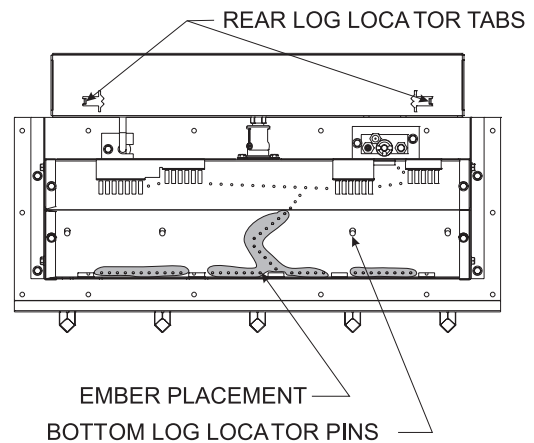
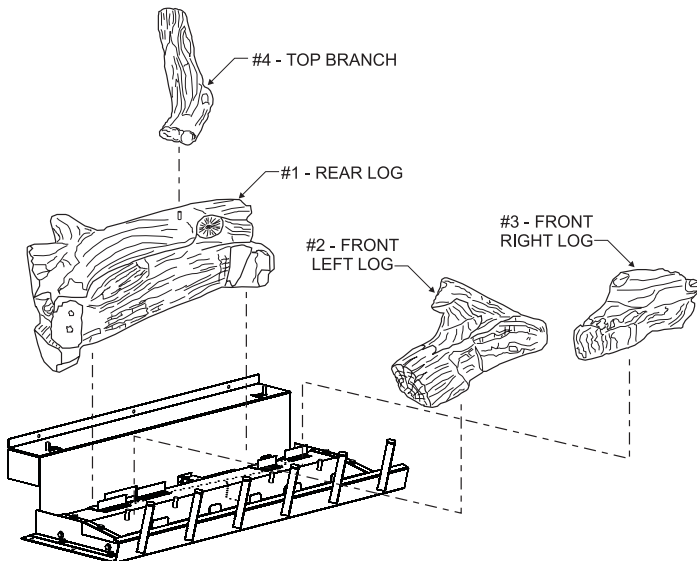

Figure 71
Figure 70
The positioning of logs is critical to safe and clean operation of this fireplace. Sooting and other problems may result if the logs are not properly and firmly positioned in the firebox. Please refer to **Figure 70**, **Figure 71**, and **Figure 72** and corresponding **WARNING**, when completing the following log placement steps.
2. After all logs are properly positioned, place small “dime” size pieces of Rockwool lightly across the front round “blueflame” ports. Place the ember material (Rockwool pieces) side by side. Do not stack more than one layer of embers across the burner ports. **See Figure 70.**